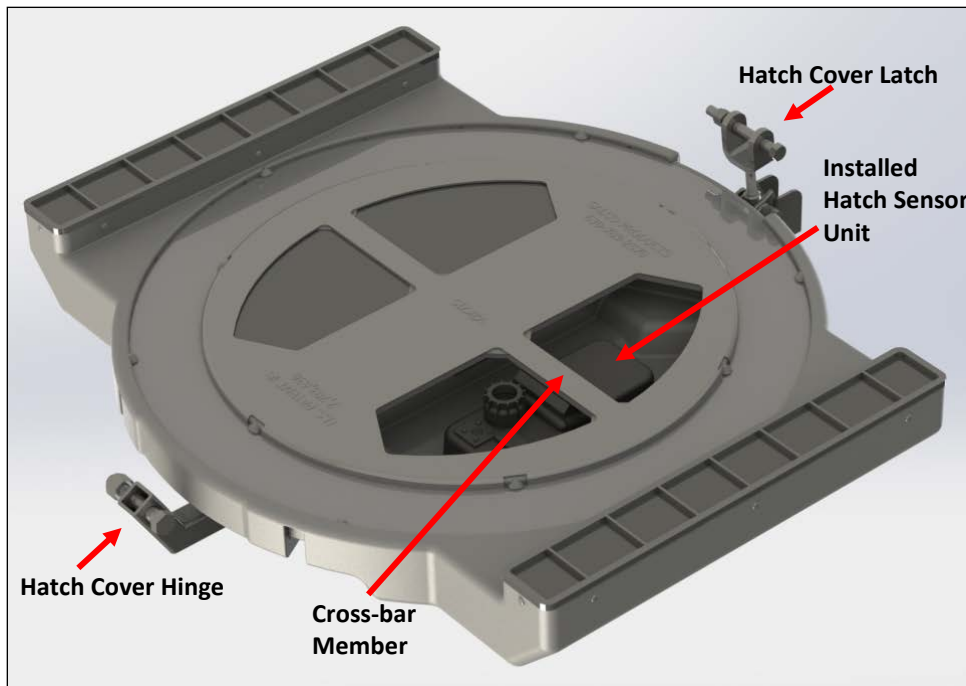

Figure 2: Installed Hatch Sensor Unit and Parts of the Hatch Cover
3. Attach the Hatch Sensor Unit onto the adhesive, as seen in Figure 2, with the distance sensor housing closest to the center line of the vented hatch cover and facing towards the hinge of the Hatch Cover.